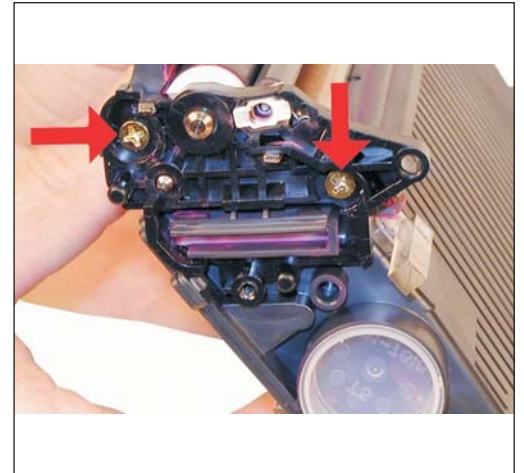

Figure 64
38) Remove the two screws on the fill plug side end plate. Note that these two screws are different from other screws in this cartridge. See Figures 64 & 65